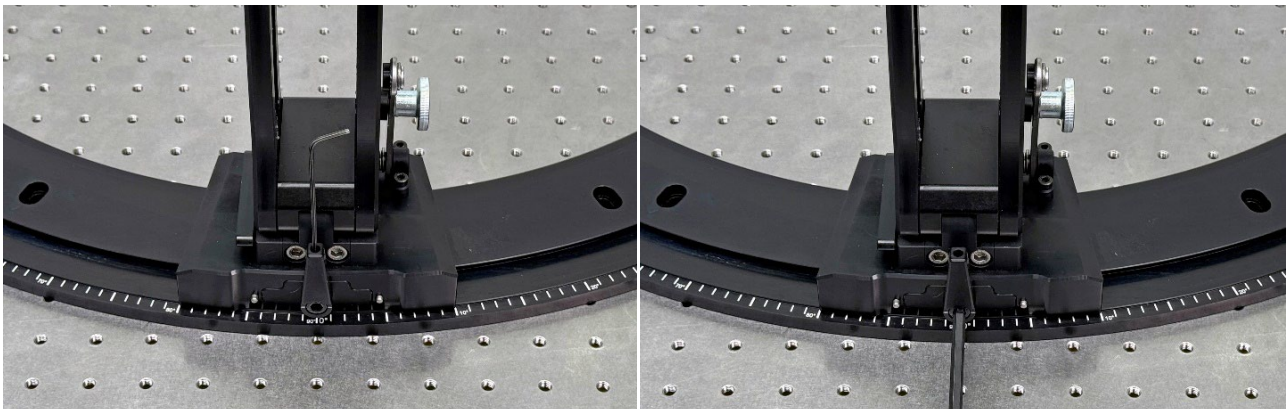

Figure 17. ARM locking lever adjustment (locked in the picture).
- Use 2 mm Allen key to loosen the screw that locks the lever to its axel (Figure 17, left).
- Use 5 mm Allen key to loosen the axel screw if operating the lever takes high force or tighten it in case the ARM does not lock to RNG properly (Figure 17, right).
- Use 2 mm Allen key and re-tighten the lever locking screw (Figure 17, left)